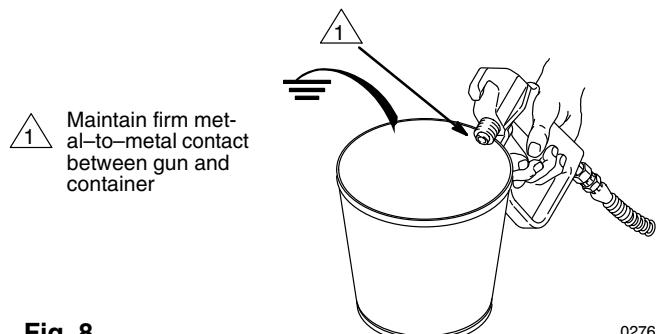

Fig. 8
- With the bypass valve closed, turn on the sprayer, trigger the gun into the flushing pail and allow the solvent to circulate through the hose and gun for two to three minutes, using the lowest possible pressure. See Fig. 8. Release the gun trigger and lock the safety lever. Turn off the sprayer.